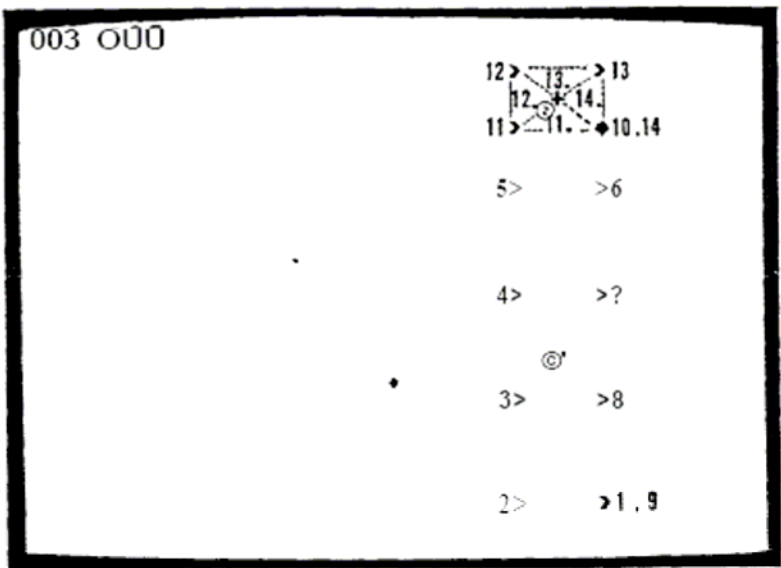

fig. 36 (SPACE SCREEN)
These values provide a convenient perspective for viewing the "i" model and were used to help make fig. 36.
2. Type the "F" (Follow) key once to jump the cursor to a point (pt. 1, fig. 36) directly over the first point of the LOW LINE (pt. (1), fig. 36) and to form the panel STARTING LINE. (Remember, if no points have yet been plotted, the "F" (Follow) key jumps the cursor directly over the first point of the LOW LINE and then plots a point and initiates the STARTING LINE of the panel.) Fig. 36 is a perspective SPACE SCREEN view using the viewing angles currently loaded in 3-D MENU #1.
3. Hold down the "F" (Follow) key to construct the lateral sub panel around the stem. Stop when the LEADING LINE connects LOW LINE pt. (9) with HIGH LINE pt. 9 (fig. 36). Do not let the LEADING LINE advance to the dot. Use the RIGHT HAND RULE to make sure the outside surface of the panel is the visible side. Check the construction by tracing the triangles back in the SPACE SCREEN.
The next step is to advance the LEADING LINE up to the dot without constructing visible triangles. This will place the LEADING LINE in position to construct the lateral sub panel of the dot (fig. 36).
When you type the "F" (Follow) key, the cursor first hops directly over the next unused LOW LINE point and then forms a "." (Plot) triangle followed by an "L" (LOW LINE) triangle. In this case, the cursor hopped to 10 (fig. 36), directly over the next point on the LOW LINE (pt. (10)) and then two JUMP TRIANGLES were constructed (triangles 17. and 18L, drawn with dotted lines). This advanced the LEADING LINE to a position to begin construction of the lateral sub panel of the dot.